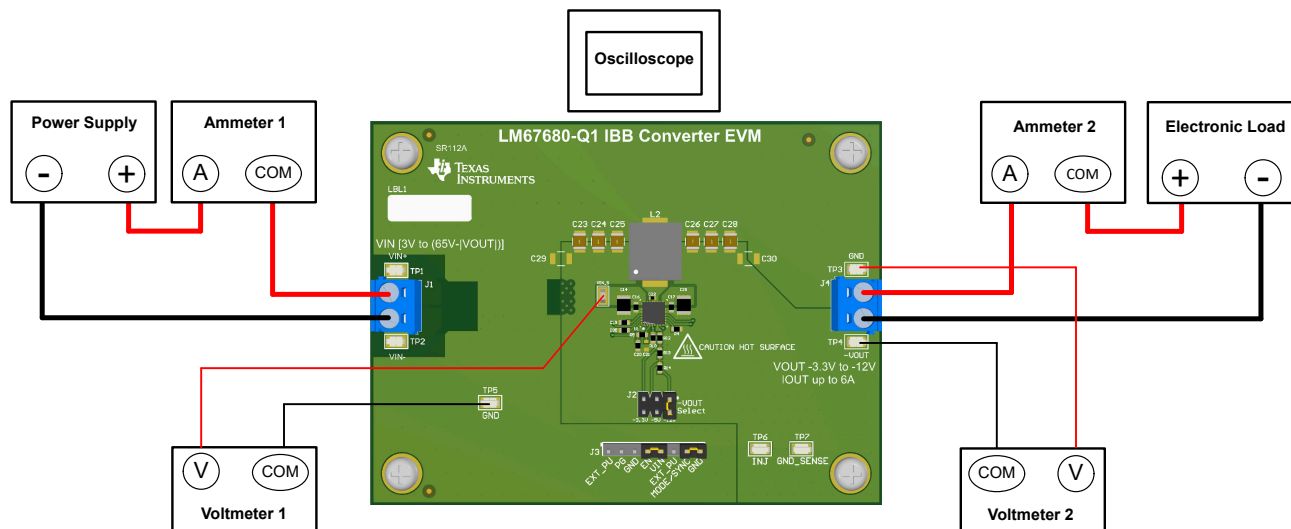

Figure 2-1. EVM Test Setup
Referencing the EVM connections described in Table 2-1, Figure 2-1 shows the recommended test setup to evaluate the LM67680-Q1. Working at an ESD-protected workstation, make sure that any wrist straps, boot straps, or mats are connected and referencing the user to earth ground before handling and applying power to the EVM.
- Prior to connecting the DC input source, set the current limit of the input source to 0.1A. Make sure the input source is initially set to 0V and connected to the VIN+ and VIN– connection points as shown in Figure 2-1.
- Connect an electronic load to GND and –VOUT connections as shown in Figure 2-1. Set the load to constant-resistance mode or constant-current mode at 0A before applying input voltage.